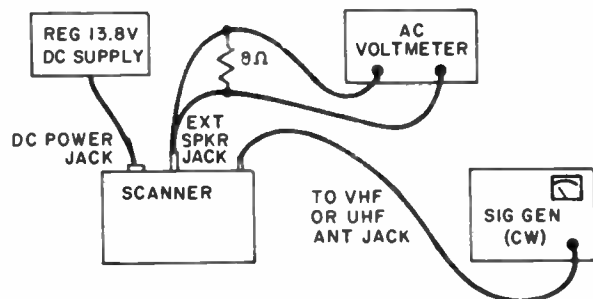

Figure 8—Test Setup for UHF RF Alignment and Sensitivity Measurement.
1. Connect the test equipment as shown in Figure 8 with the RF generator output connected to the UHF antenna jack.
2. Set the program switches to the UHF (U) position, the bypass switches to the "on" position and the AUTO/MAN switch to the "MAN" position.
1. Connect the test equipment as shown in Figure 8.